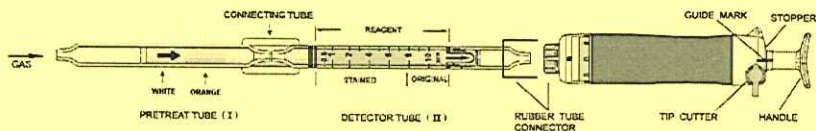

Fig.1
- ① Break both ends of the detector tube (II) and pretreat tube (I), and connect each end of the detector tube (II) and pretreat tube (I) with connecting tube as shown in Fig.1.
- ② Insert the detector tube (II) into the aspirating pump securely as shown in Fig.1. (Arrow mark shall point to the pump.)
- ③ Align the guide marks on the shaft and stopper of the aspirating pump.
- ④ Pull the pump handle at a full stroke until it locks and wait for 1.5 minutes or until the completion of sampling is confirmed with the flow indicator of the pump. (See descriptions about the flow indicator in the instruction manual of the pump.)
- ⑤ Push back the handle without removing the detector tube from the rubber tube connector so that air in the pump will be discharged perfectly. Then repeat the step ③~④ once more.
- ⑥ On completion of sampling, read the scale at the maximum point of the stained layer.
- ⑦ When the concentration is over the scale range, 1 pump stroke can be used to determine concentrations of 1 to 20 ppm.